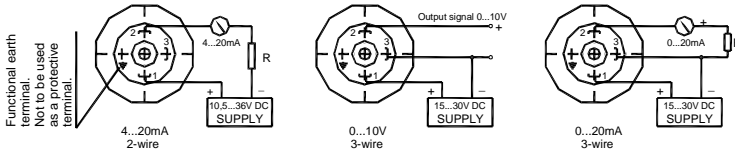

Fig.1a. Wiring diagram for PCE-28, PRE-28 transmitters and PCE-28P probe (Not applicable to Ex version)
The methods of earthing the transmitters are shown in figures 1a, 2.
12.5.1. The **PYRL-28** probe should be connected as shown in figure 1a.